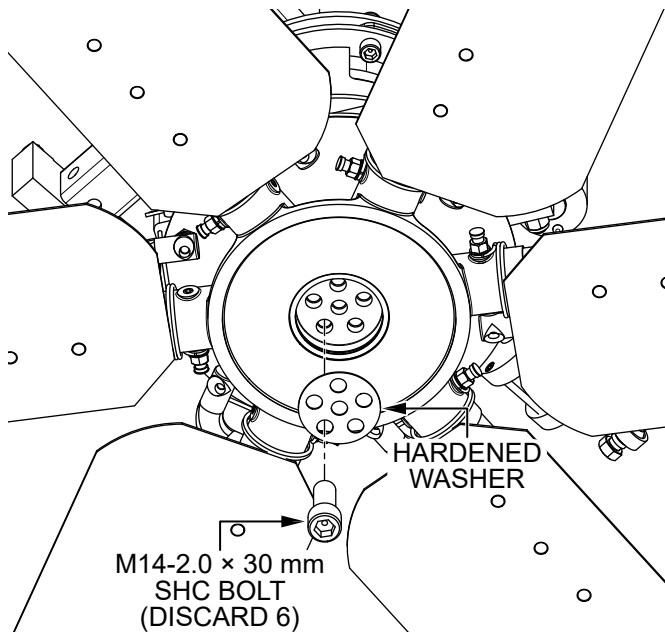

Figure 59. Remove Left-Side Spider Hardware
3. Remove and discard the **six M14-2.0 × 30 mm SHC bolts** and **one hardened washer** (Figure 59) securing the left-side spider assembly to the bottom of the left-side hydraulic motor.